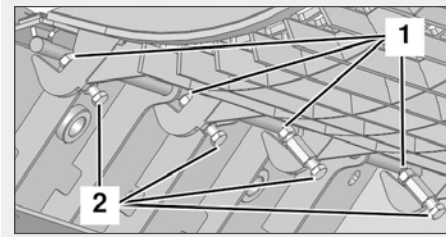

Fig. 9: Hex bolts on the upper replaceable rear basket grid holder
11. At the top of the replaceable rear basket grid holder, tighten the four hex bolts (fig. 9/2) firmly so that they press against the weld axis of the replaceable rear basket grid holder and push the replaceable rear basket grid into the holders on the lower side of the replaceable basket.
- Ensure that the hex nuts (fig. 9/1) remain loose.